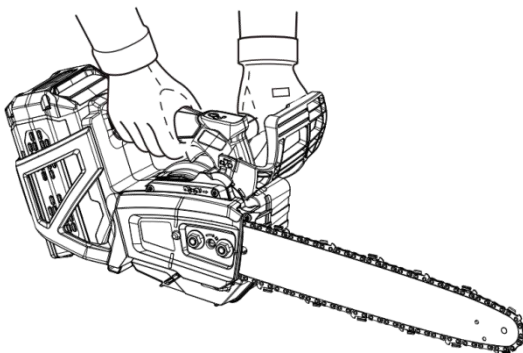

Fig 14
- Hold and control the chain saw with the left hand on the front handle and with the right hand on the rear handle - wrap your thumb around the handles (Fig 14).